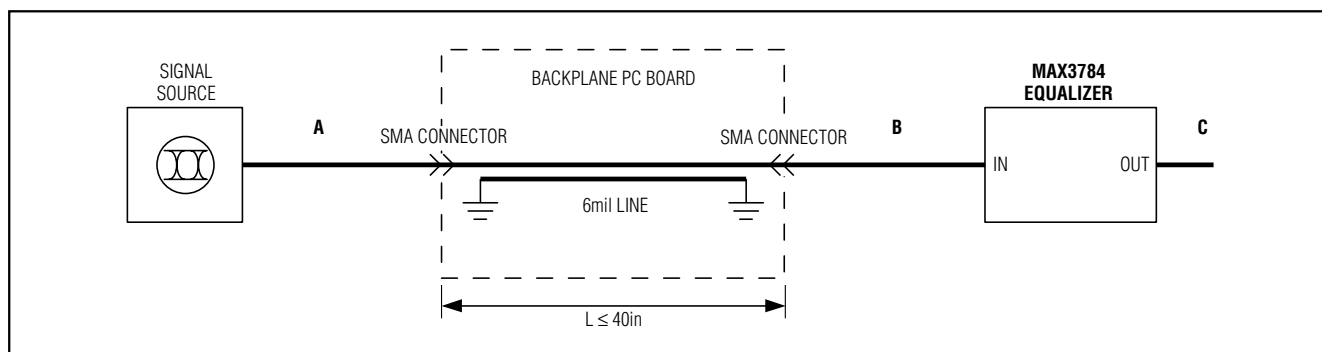

Figure 1. Test Conditions
**Note 3:** Difference in deterministic jitter between reference points A and C in Figure 1.
**Note 4:** Signal source amplitude range is 400mVp-p to 1000mVp-p, differential. Signal is applied differentially at point A as shown in Figure 1. The deterministic jitter at point B must be from media-induced loss and not from clock-source modulation. Deterministic jitter is measured at the 50% vertical level of the signal at point C.